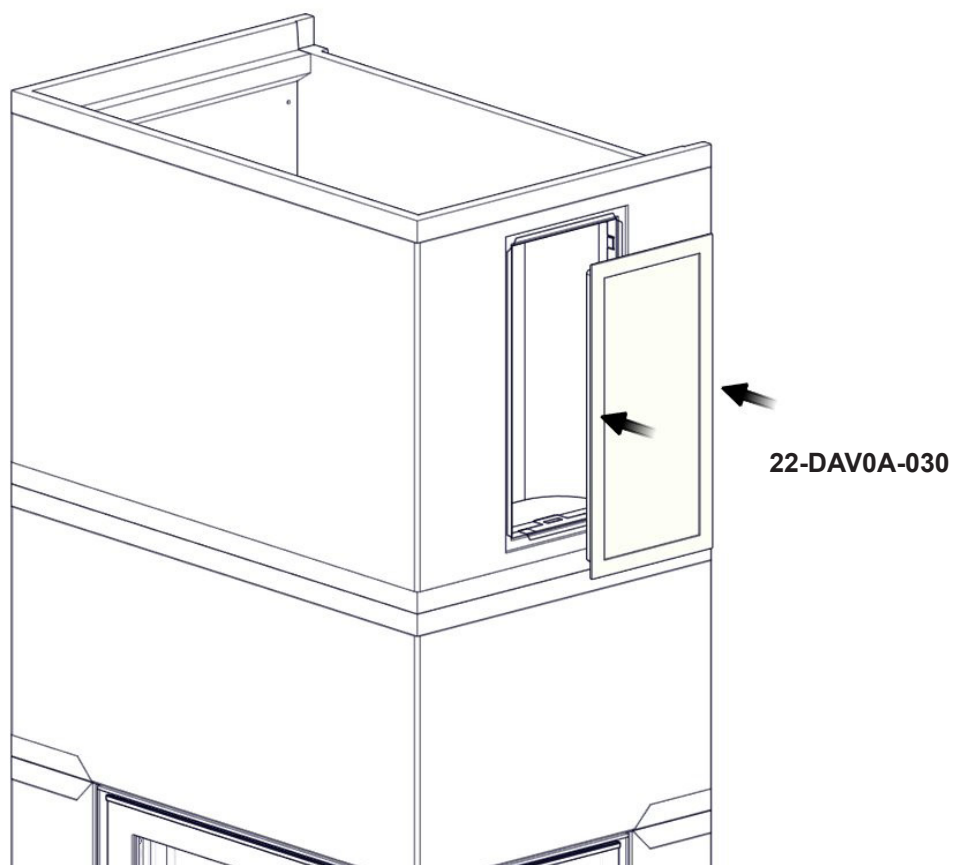

FIG 22
FIG 22 a Davos A High\_N-29A
FIG 22 b Davos A High\_N-29A
FIG 22 c Davos A High\_N-29A
FIG 22 d Davos A High\_N-29A
**FIG 22 e** Davos A High\_N-29A